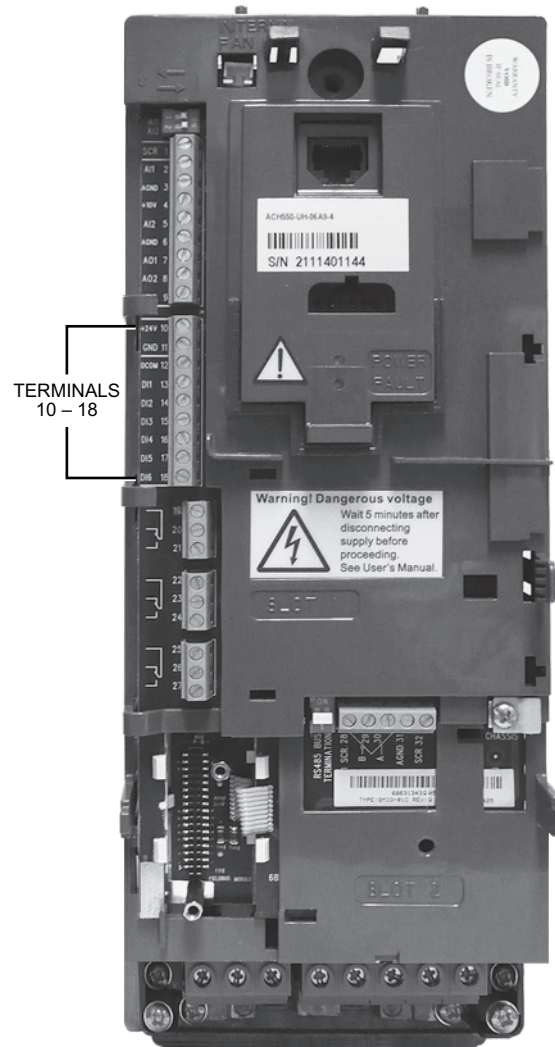

Fig. 39 — Terminal Block Location on ACH550 VFD
3. Disconnect the DI1 input at Terminal 13 (see Fig. 39 for location of DI1).